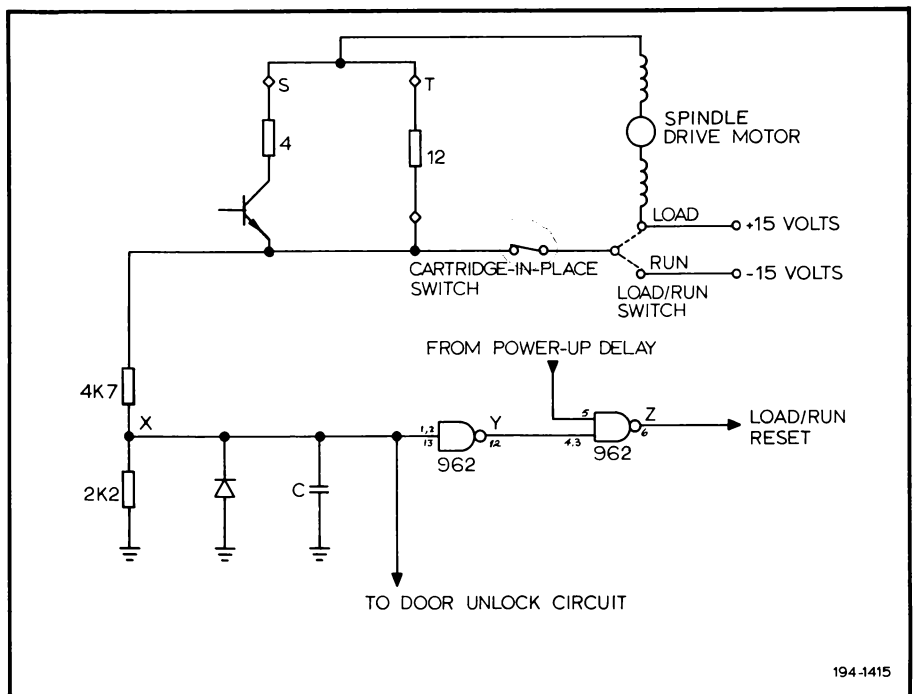

FIGURE 4.8 LOAD/RUN CIRCUIT, SIMPLIFIED
- (f) The voltage levels at the points shown in figure 4.8 are: X at +5 volts, Y at 0 volts, Z at +5 volts (see also the J9 circuit diagram)
- (j) The load/run-reset signal is generated to cause a restore operation. Figure 4.8 shows how load/run-reset hi is produced: when the load/run switch is set to RUN, X goes to 0 volts, Y goes to 5 volts and, provided start-up reset is hi, Z goes to 0 volts in a time governed by capacitor C